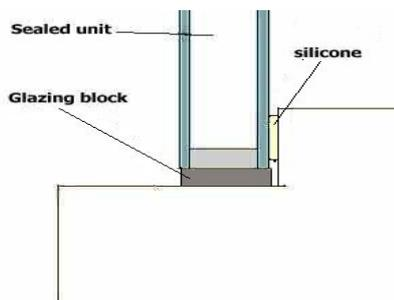

Fig 1.
3. Sit the unit on the glazing blocks and push gently against the back rebate and centralize, making sure not to push silicone out of the rebate. If using security glazing strip apply direct from the reel onto the correct surface of the unit (if using Pilkington 'K' double glazed sealed units ensure that the 'K' surface is on the inside of the property) and press sufficiently along its whole length to achieve good initial adhesion. Remove backing paper and offer to the back rebate, push firmly to seal across the joint. There should be 3mm gap around between the unit edge and the timber, to allow for thermal movement and to prevent water from bridging between the rebate and the edge seal of the unit. (See Fig1)